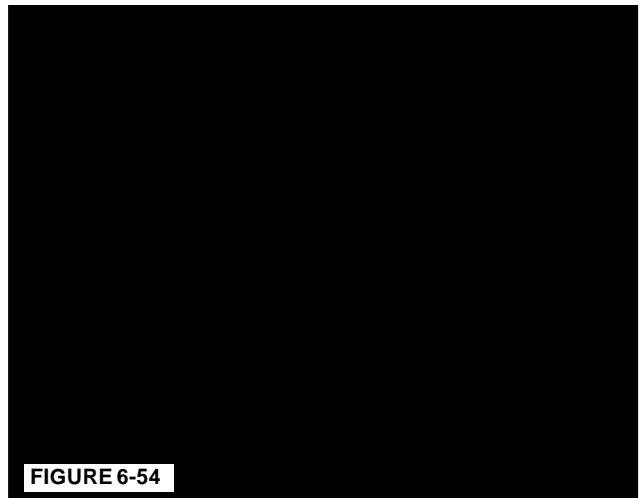

FIGURE 6-54
2. Using a rotor lifting fixture and a suitable hoist, carefully install the rotor assembly into the main stator assembly through the drive end. (Figure 6-54.) Carefully feed the rotor leads through the front end bracket shaft hole as the rotor is installed.